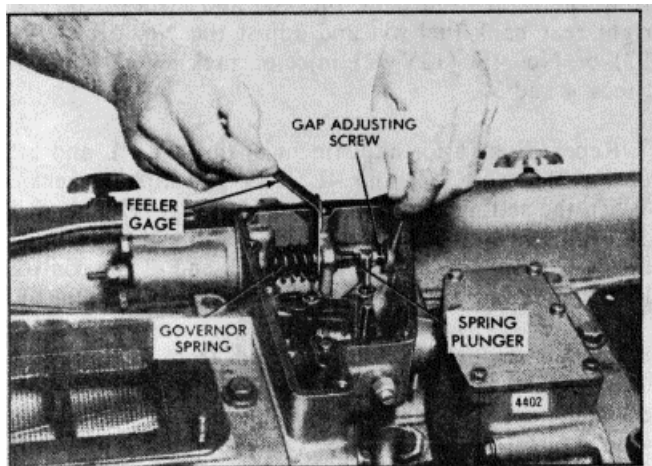

Fig. 10. - Adjusting Governor Gap
4. Insert a .006" feeler gage between the spring plunger and the plunger guide (Fig. 10). If required, loosen the locknut and turn the adjusting screw until a slight drag is noted on the feeler gage.